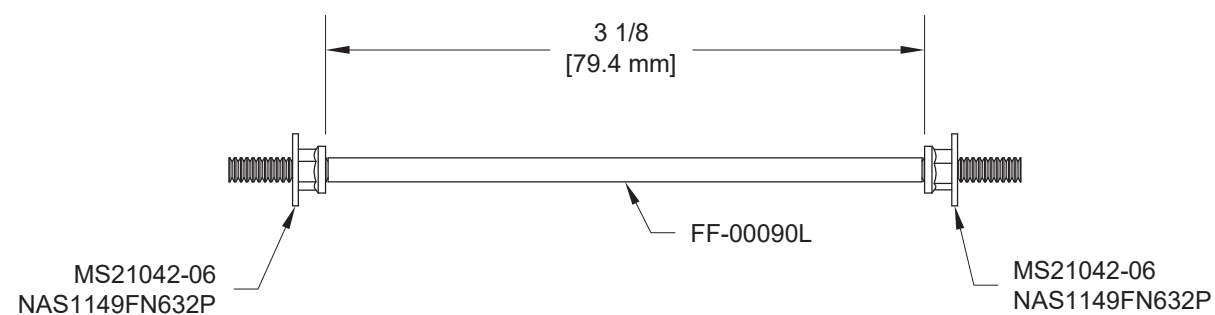
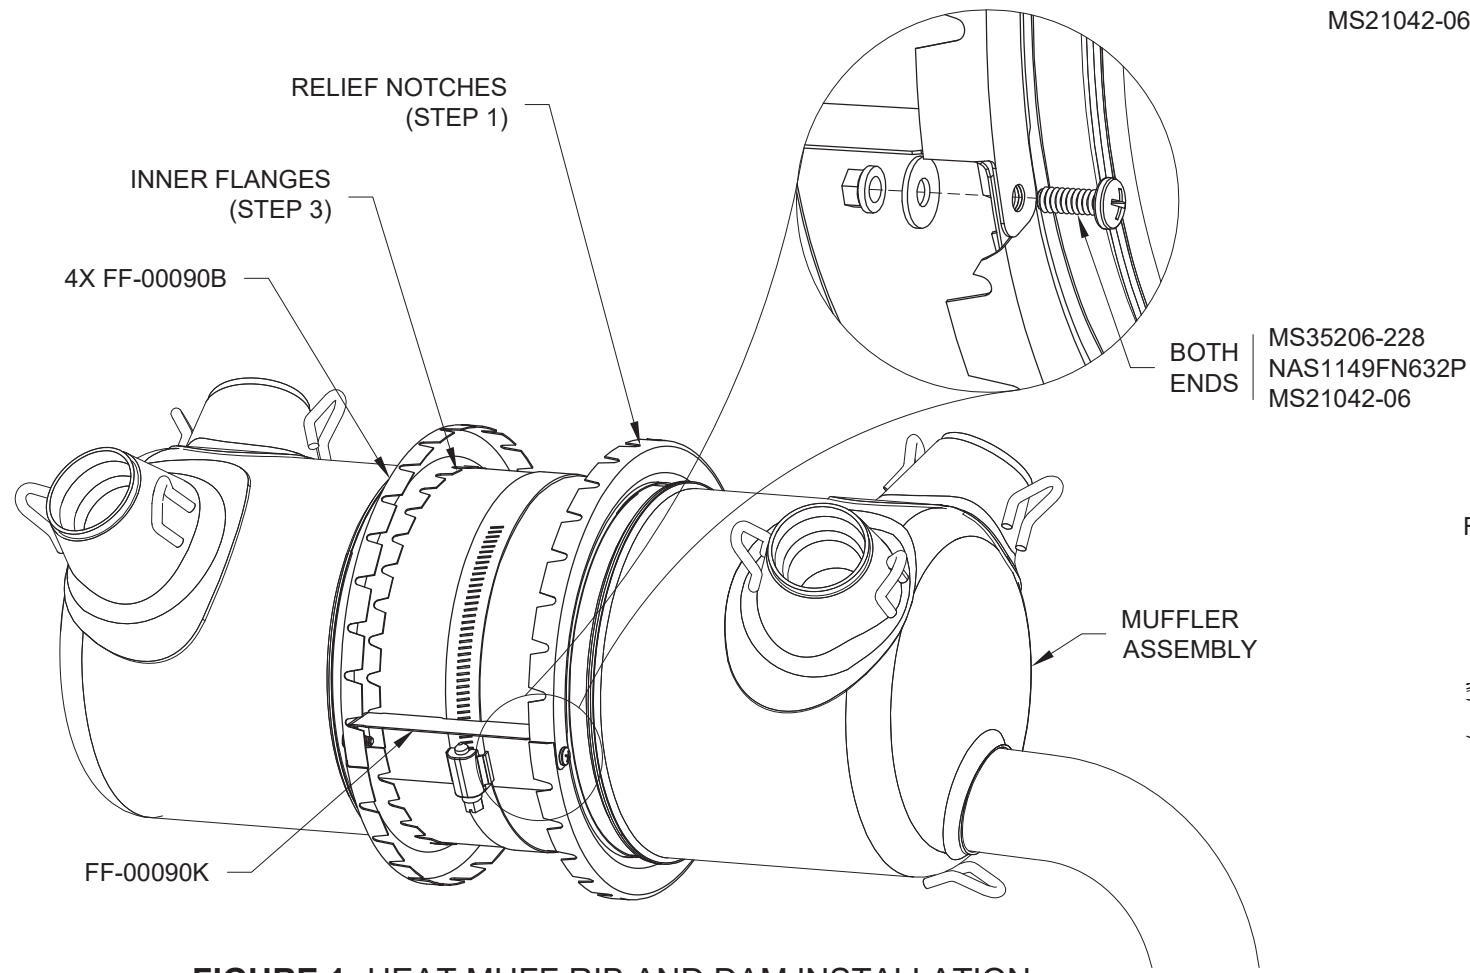

FIGURE 2: HEAT MUFF ROD ASSEMBLY
FIGURE 1: HEAT MUFF RIB AND DAM INSTALLATION
Step 2: Assemble the FF-00090L Heat Muff Rod and the hardware as shown in Figure 2.
Step 2: Install the FF-00090B, FF-00090K Heat Muff Dam, and Heat Muff Rod Assembly with hardware as shown in Figure 1 and Figure 2. Make sure the FF-00090K is located on the aft side of the muffler assembly as shown in Figure 1 and the small notch in the FF-00090K is positioned over the clamp.
Step 3: Verify that the assembled FF-00090B cannot be easily moved along the muffler assembly. As necessary, adjust the inner flanges of the FF-00090B inward to provide greater clamping force. See Figure 1.